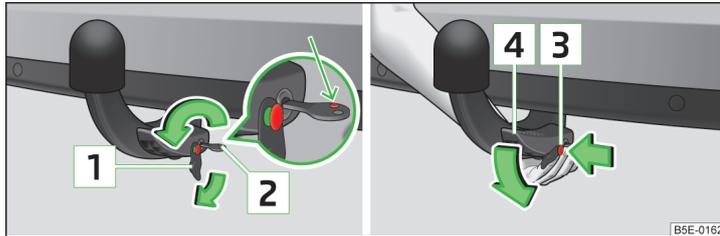

Fig. 159 Unlock the operating lever of the ball head/removing the ball head
- Remove cover **1** » Fig. 159 from the lock in the direction of the arrow.